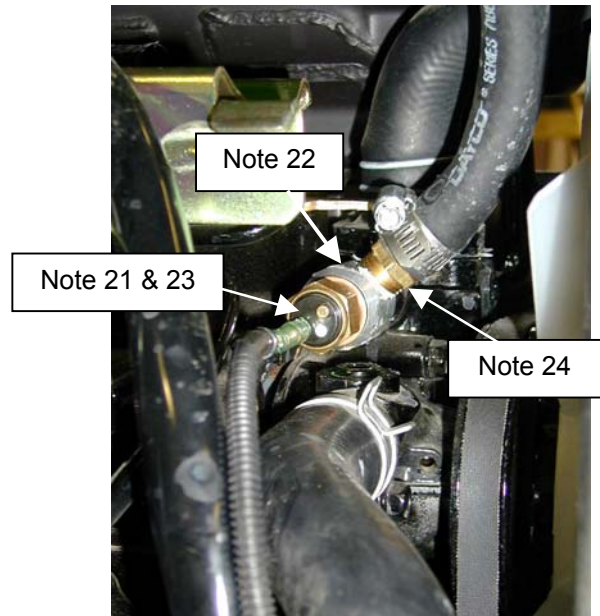

Figure 21
22. Install aluminum fitting #3-15815 **with O-ring washer #3-16823** into thermostat housing. See Figure 21.